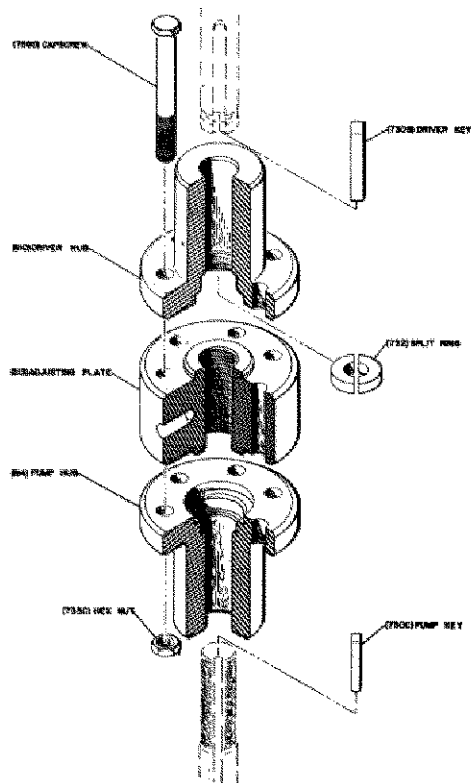
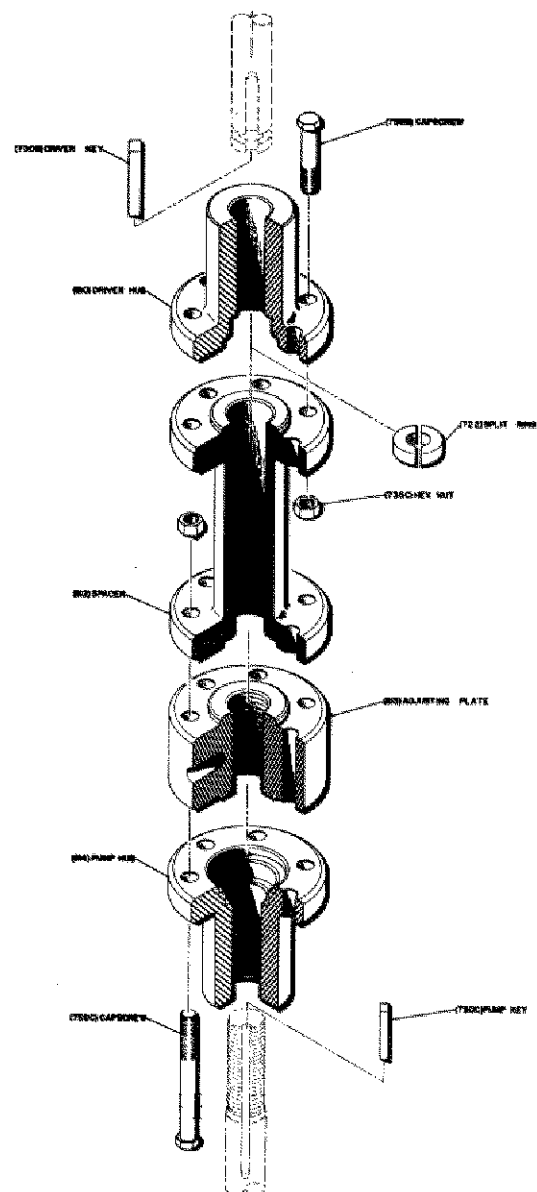

FIGURE 11-1. FLANGED ADJUSTABLE COUPLING
FIGURE 11-2. FLANGED ADJUSTABLE COUPLING WITH SPACER
11-2. HIGH PROFILE HEAD. (See Figure 7-1.) The high profile head may be used in conjunction with a solid shaft driver, adjustable or spacer coupling, stuffing box, mechanical seal, or a primacyclamatic tank. Primacyclamatic tank supplies temporary lubrication to mechanical seal or stuffing box during priming and stripping operations. The spacer coupling is used on pumps having a mechanical seal to permit repairing or replacing the seal without lifting the gearhead. The coupling between the driveshaft and pumpshaft may be a nonspacer, see Figure 11-1, or a spacer type, see Figure 11-2. Install the right angle gear drive as follows:
N. Install spacer (612) and secure to driver hub (610) with capscrews (759B) and nuts (735C).
11-3. IMPELLER ADJUSTMENT (See Figure 11-1 or 11-2.) Adjustment is accomplished by turning adjusting plate (613).
2. With the impellers at the bottom turn adjusting plate (613) towards driver hub (610) or spacer (612). Obtain 0.015 inch clearance between adjusting plate and driver hub or spacer for the first 10 feet of column. Add 0.010 for each additional 10 feet of column.
A. The coupling between the driveshaft and pumpshaft may be a nonspacer, see Figure 11-1, or a spacer type, see Figure 11-2.
H. Apply a thin film of oil on headshaft key (730C) and insert key into headshaft keyseat.
J. Gently lower pump hub (614) over headshaft.
K. Thread adjusting plate (613) flush with top of headshaft.
L. Apply a thin film of oil to key (730B) and insert it into the driveshaft keyseat. Place the driver hub (610) over the driveshaft and key, sliding it up the shaft until annular groove on shaft is exposed. Install split ring (722) in the groove and slide driver hub down over the split ring to capture it.
M. Install spacer (612) and secure to driver hub (610) with capscrews (759B) and nuts (735C).
11-5. IMPELLER ADJUSTMENT — OPEN OR ENCLOSED. (See Figure 11-1 or 11-2). Adjustment is accomplished by turning adjusting plate (613).